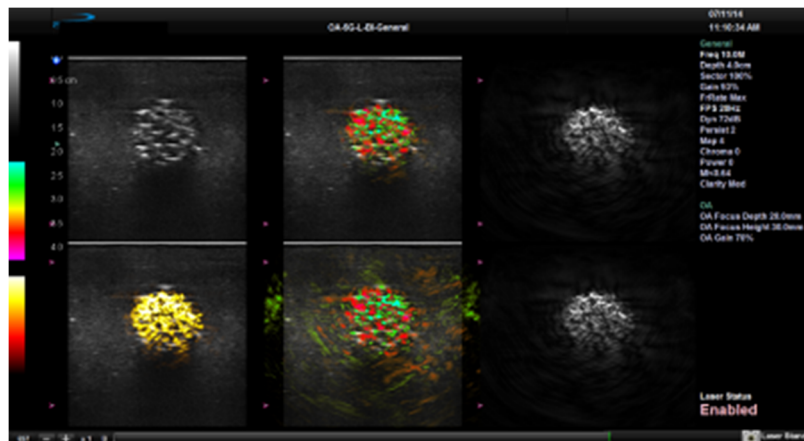

Figure 111: Machine Check Image Recording
- (4) Place the OA Flat Breast Phantom within 62 cm (2 feet) of the Imagio Breast Imaging System cart.
- (5) Open the OA Flat Breast Phantom lid and apply the Seno approved gel to the Flat Breast Phantom.
- (6) On the console press the Exam Management button to display the Exam Management Page.
- (7) In the Patient ID field, enter “Machine Check 000” where 000 represents the sequential numbering of the daily images.
- (8) In the Operator ID field enter your full name.
- (9) Select the OK button to move to the live imaging Display Monitor screen.
- (10) Verify that Laser Enabled is displayed on the right side of the Display Monitor. If necessary, press the touch screen Laser Control button and enable the laser by entering the laser password.
- (11) Observing the Display Monitor, press the foot switch completely and fully to the floor, and ensure that you have a clear, complete image.
- (12) Move/rotate the OA/US Probe on the Breast Flat Phantom with varying pressure and attempt to duplicate the image in Figure 111. Call the local service provider if this image cannot be duplicated or artifacts appear that prohibit a diagnostic quality image.